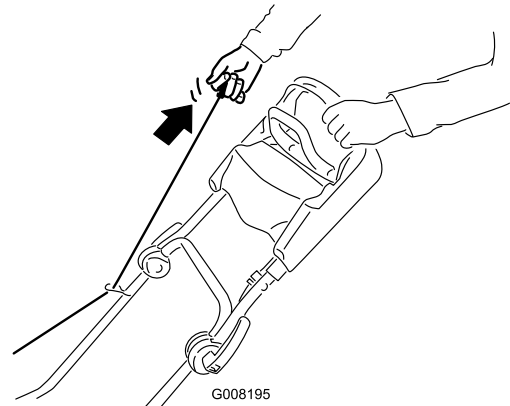
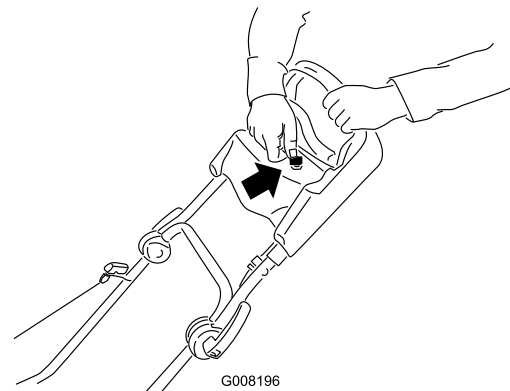

Figure 15
Figure 16
2. Pull the recoil starter (Figure 15) or turn the ignition key as shown in Figure 16 (model 21027 only).